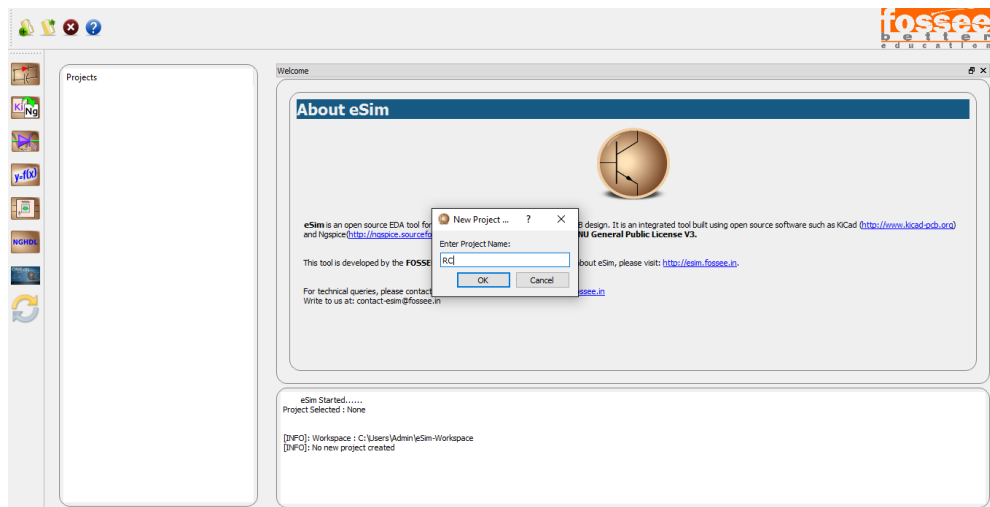

Figure 14.1: Creating New Project
- Creating a Project: The new project is created by clicking the **New** icon on the menubar. The name of the project is given in the pop up window as shown in Fig. 14.1.
The new project is created by clicking the **New** icon on the menubar. The name of the project is given in the window shown in Fig. 14.1.